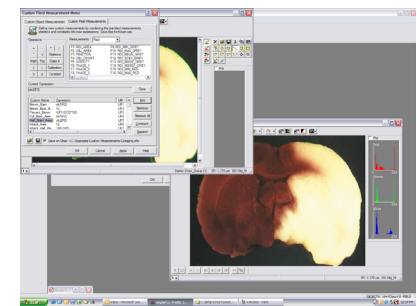
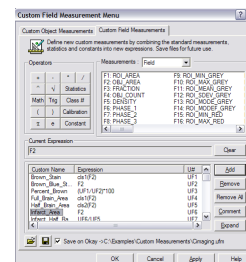
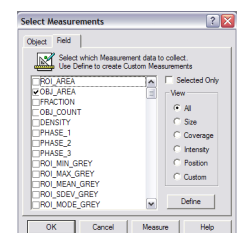

fig.49
fig.52
fig.51
11. Click the **Measure** icon in the **Task** toolbar. Click **Define** (fig.51) and create the following custom measurements as shown in figure 49: **Infarct_Area: F2** and **Infarct_Half_Ratio: UF3/UF2** (UF3= Infarct Area, UF2= Half_Brain Area). Click **OK**. Check the custom measurement in the **Select Measurement** window > Click **OK** (fig.52).